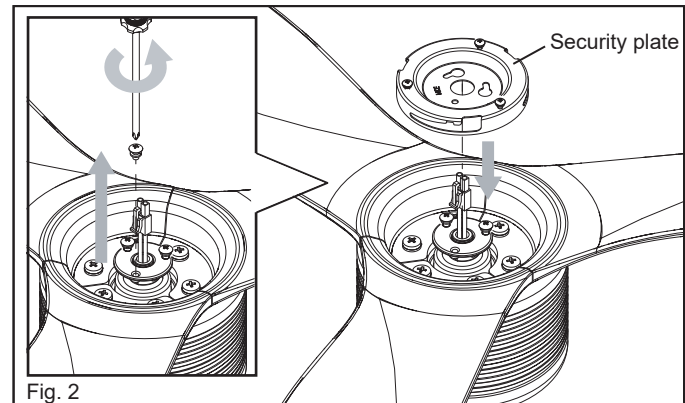

Fig. 2
- 2 Loosen two of the three screws on the base plate for 2/3 and remove one of the base plate screws. Align the two key holes of the security plate to the two screws on the base plate. (Fig. 2)